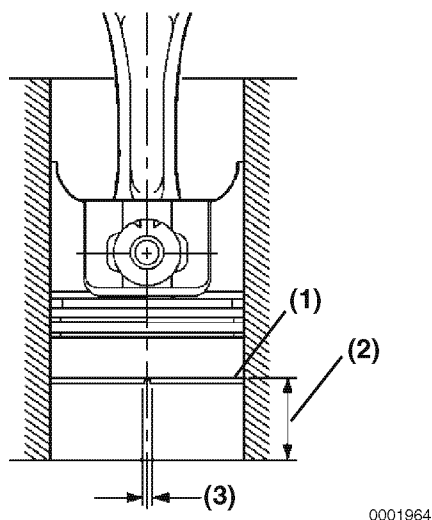

Figure 6-118
10. To measure piston ring end gap, insert each compression piston ring (**Figure 6-118, (1)**), one at a time, into the cylinder. Use a piston with the piston rings removed to slide the ring into the cylinder bore until it is approximately 1.18 in. (30 mm) (**Figure 6-118, (2)**) from the bottom of the bore. Remove the piston. Measure the end gap (**Figure 6-118, (3)**) of each piston ring. Record the measurements. See *Piston Ring* on page 6-16 for specifications.